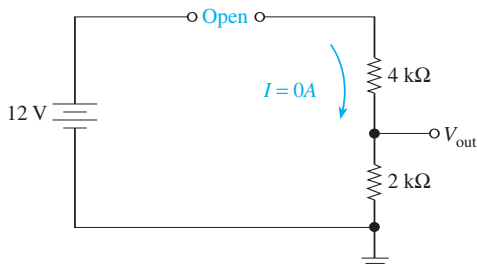

Figure 7 An open circuit causes current to stop flowing.
An *open circuit* is a break in a circuit. This can be done purposely by an electronic switching component, or it could be a circuit fault caused by a bad connector or burnt-out component. This break will cause the current to stop flowing to all components fed from that point. Calculate V_{out} in Figure 7.
9. In Figure 7, the voltage across the $2\text{-k}\Omega$ resistor is the same as that across the $4\text{-k}\Omega$ resistor. True or false?